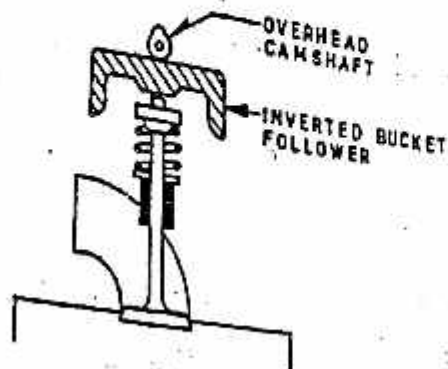

Fig. 3.28. Overhead camshaft-operated mechanism with inverted bucket type follower (Single row valves).
- Fig. 3.28 shows single row valves operated by a single overhead camshaft (SOHC) and an inverted bucket type follower. With this type of follower, the camshaft is arranged directly over the valve stems.